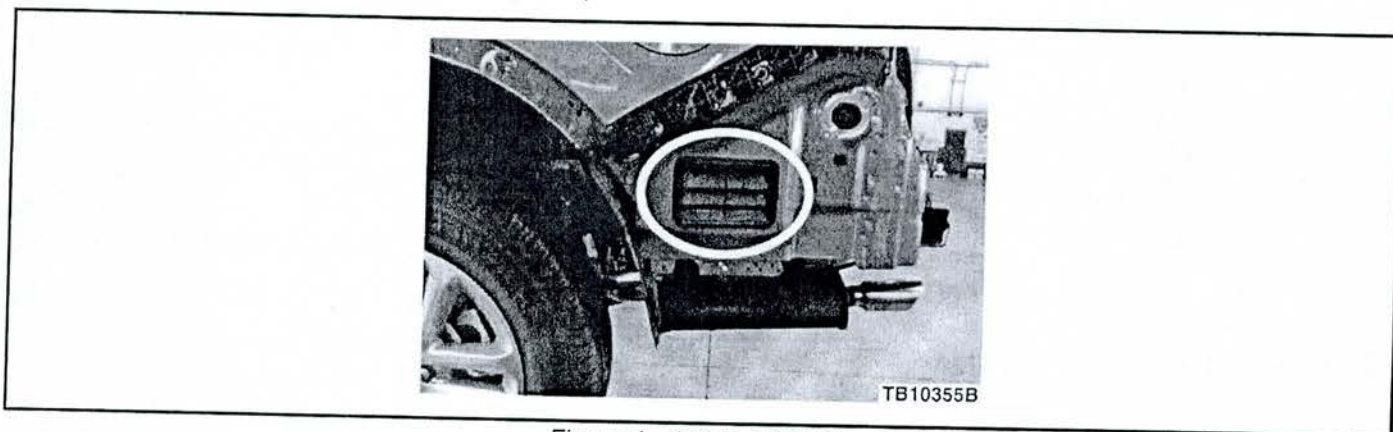

Figure 1 - Article 14-0130
3. Replace the left side rear air extractor. (Figure 1)